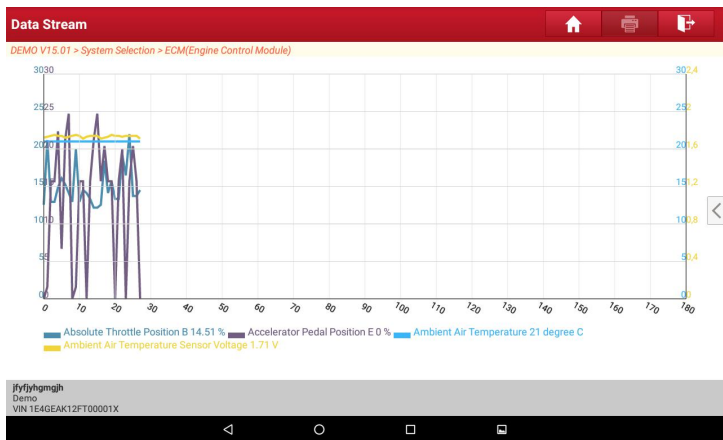

Fig. 4-22
- ✓ **Combine** – this option is mostly used in graph merge status for data comparison. In this case, different items are marked in different colors. See Fig. 4-22.